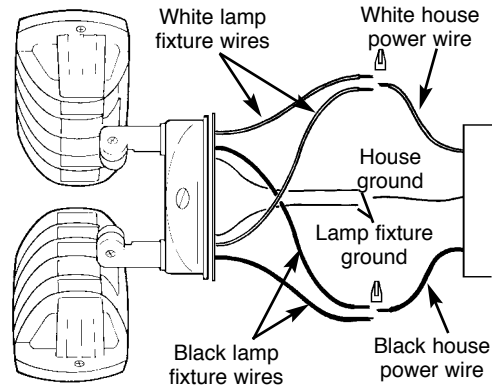

Fig. 5
Step 3: Position the gasket included on the coverplate and connect the black wires from both fixtures to the black house supply wire and the white wires from both fixtures to the white supply wire using the wire nuts provided. Attach the ground wire coming from your house to the copper ground wires from both fixtures using wire nuts provided. If no house ground wire is available, attach both copper ground wires from the fixture to the junction box if it is metal and grounded. If junction box is not metal and no house ground wire is available, an alternative ground source must be used for safe operation. (See Fig. 5 for wiring diagram.)